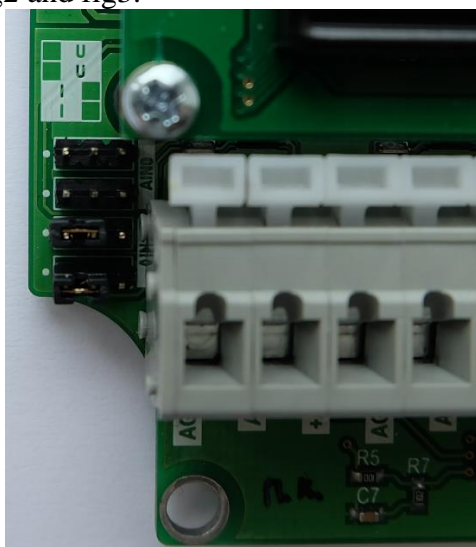
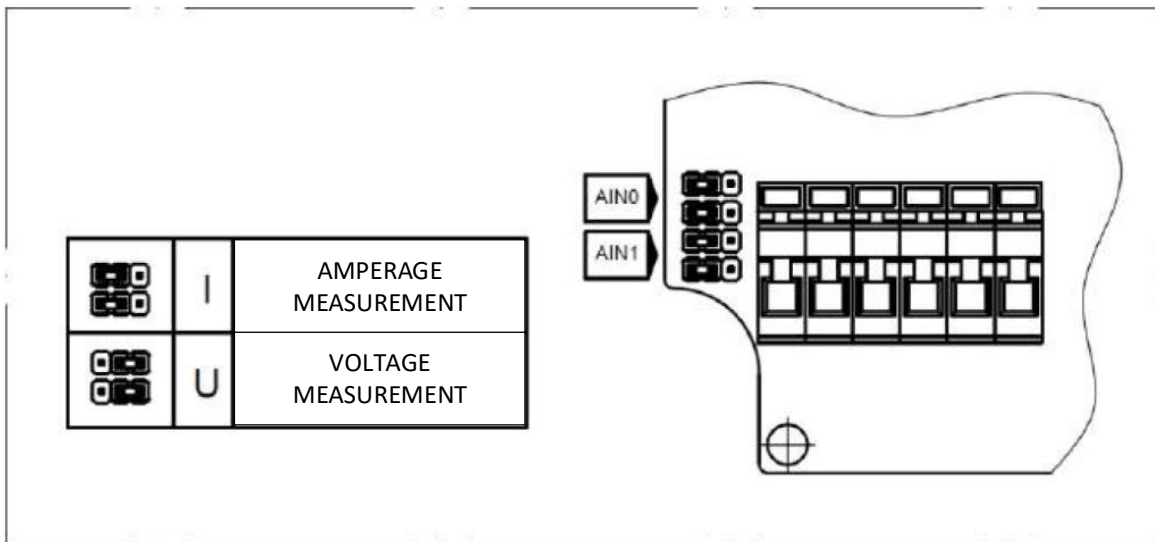

Fig.2 Jumpers placement on the board
Fig.3 Type choose of input signal
3.1.5. In order to set analogue inputs for current acceptance or voltage it is necessary to set special jumpers in a definite place, see fig2 and fig3.